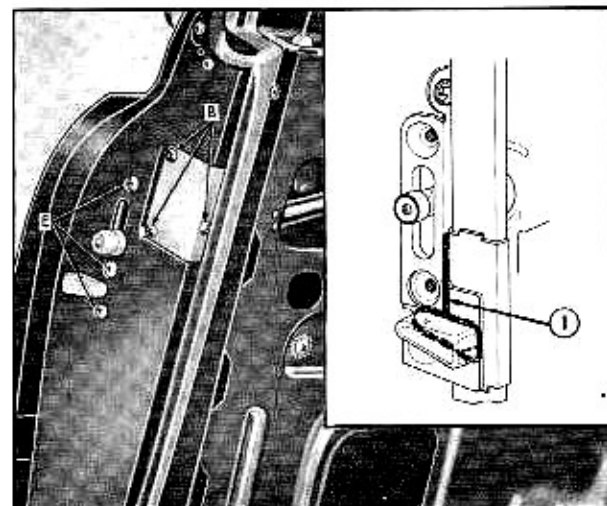

Fig. 3-4 Locking Rod Link Attaching Screws
6. Remove three screws "B" securing locking rod control link assembly to face of door pillar. Fig. 3-4.
9. Remove three lock attaching screws "E"; then remove lock through large loading hole. Fig. 3-4.
10. Before installing lock, apply a 1/8 inch ribbon of medium bodied sealer along the joint of the lock reinforcement and lock facing, extending downward completely around the base of the lock wedge, as shown at "1". After installation of lock, remove any excess sealer which has squeezed out at the door panel, wedge plate and lock bolt areas. Fig. 3-4.